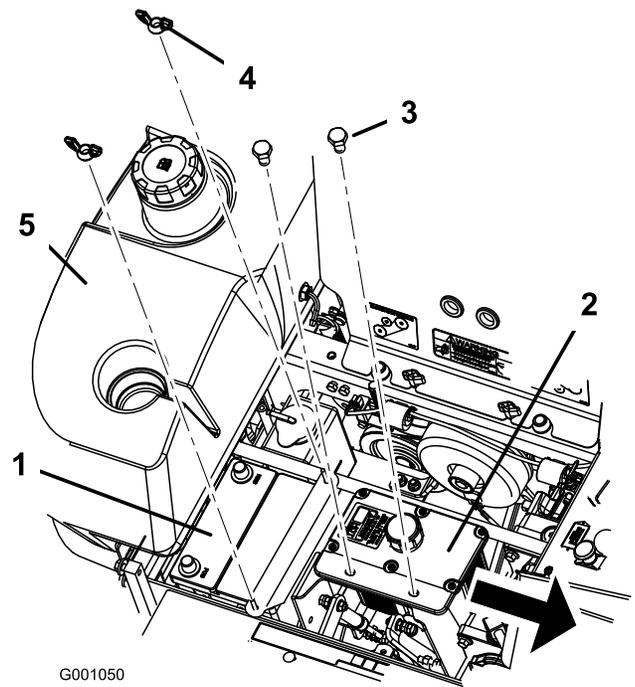

Figure 50
6. Remove both wing nuts (1/4 inch) securing the battery clamp (Figure 50).
7. Remove the two bolts holding the hydraulic tank in place (Figure 50).
6. Secure battery with J-bolts, hold down clamp and 2 washers (1/4 inch), and 2 wing nuts (1/4 inch) (Figure 50).